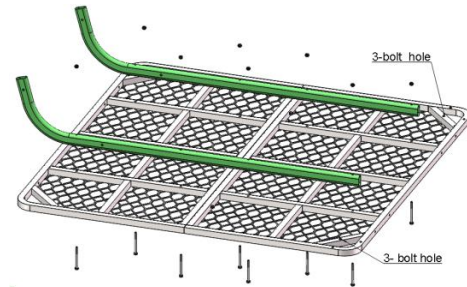

Figure 2
Step 2: Attach the two platform braces (TS305.18) to the assembled platform by using eight 1/4"-20×3" bolts (48275B) and eight 1/4" lock nuts (48752B). Please kindly noted the position of the platform braces need to same as figure 2. Leave these hand tight for now (**Figure 2**).